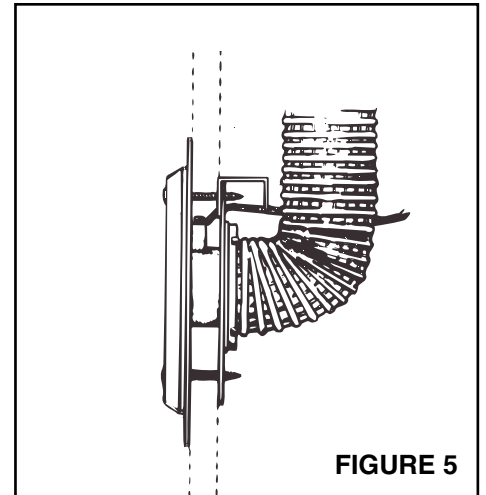

FIGURE 5
2. **Refer to Figure 5.** Adjust assembly as required. The wall should be sandwiched between the mounting plate and the frame plate.